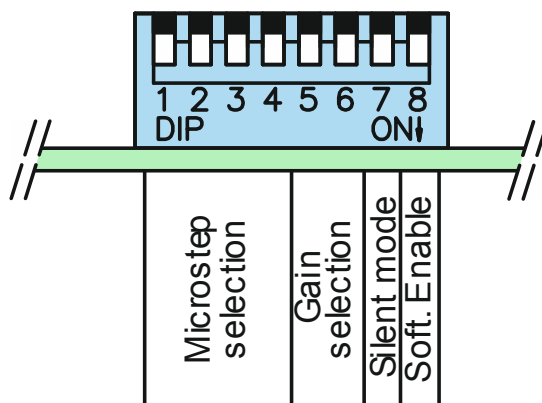

Figure 4.13 DIP switches function description
The setting of the operating parameters of the microstep drive MST-109 is done using an 8-position DIP switch. It is set using a DIP switch (Figure 4.13):
DIP switches in positions 1, 2, 3 and 4 (Figure 4.13) provide the choosing of 16 different microsteps option as shown in Table 4.2. Choice of binary and decimally microstep values is possible.
Gain is a suggestion to the built-in stepper drive current regulator for the desired mode of operation (more or less aggressive). It is possible to choose 4 different levels of amplification. DIP switches in positions 5 and 6 are used for that purpose (Figure 4.13). The choice of gain depends on the inductance of the stepper motor. Table 4.3 gives possible gain choices. The stepper motor coil inductance value can be found in the technical documentation that comes with the stepper motor.
The microstep drive MST-109 provides the option of silent operation when the stepper motor do not rotate. The selection is made using the DIP switch in position 7. When the DIP switch 7 is “down” (↓), ie. is “one” (1) (Figure 4.13), then the Silent mode of operation is active. Otherwise, it is inactive.
The DIP switch in position 8 (Figure 4.13) provides the possibility of choosing two Enable modes of operation: